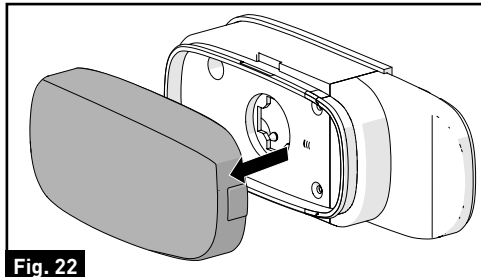

Fig. 22
2. Remove the lens cover by scratching the slot on the side of the traffic light. (Fig. 22)